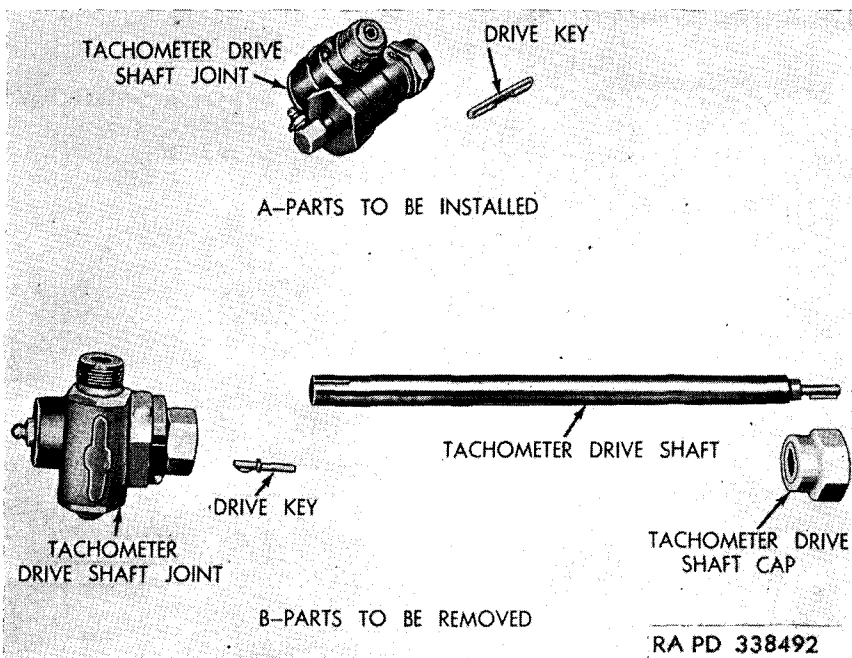
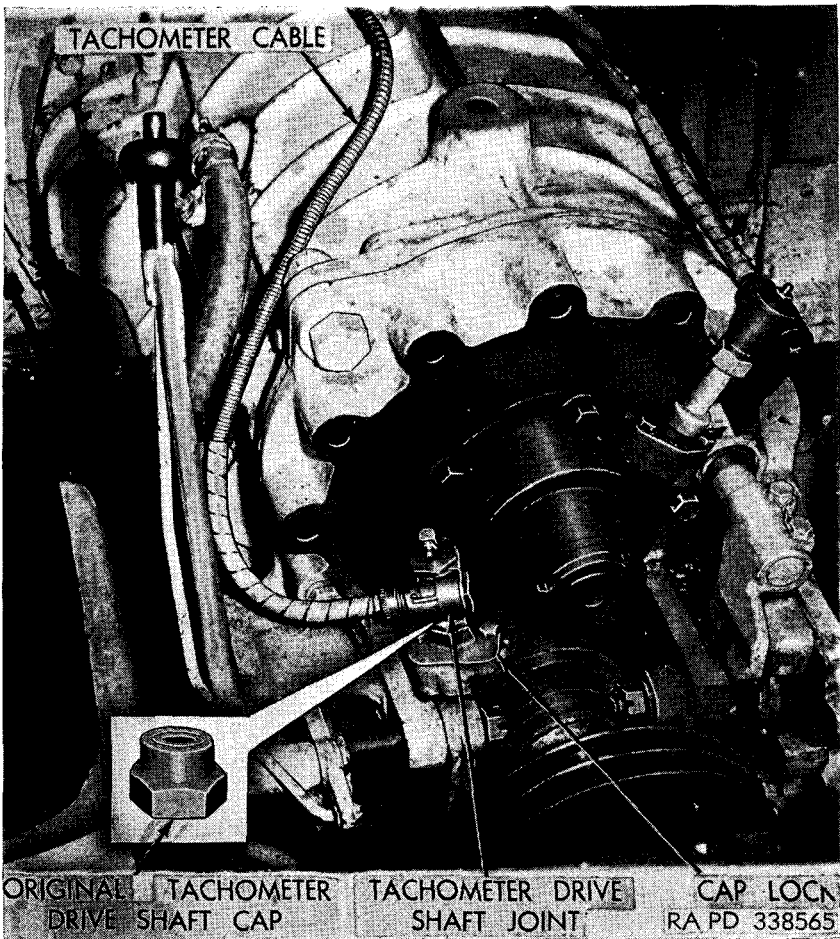

Figure 16. Tachometer drive shaft joints.
Figure 21. New tachometer drive shaft joint—installed.
b. REMOVE TACHOMETER DRIVE SHAFT JOINT. If tank is equipped with a tachometer drive shaft joint connected at rear of transmission (figs. 14 and 15), disconnect and remove the tachometer drive shaft joint and drive key (fig. 16). This joint and key will not be reinstalled. Remove the tachometer drive shaft through the drive shaft sleeve.
c. REMOVE PROPELLER SHAFT HOUSING. (1) If tank is equipped with a generator mounted on or near the engine, remove propeller shaft housing. Take off the sheet steel transmission cover fastened to the rear of transmission. The transmission rear cover will not be reinstalled.
i. INSTALL THE NEW TACHOMETER DRIVE SHAFT JOINT (fig. 21). Pry the lock from the tachometer drive shaft cap and remove the cap. This cap becomes surplus to bulldozer installation. Install new drive key and tachometer drive shaft joint (fig. 16) on tachometer drive gear bearing sleeve and bend the lock against the tachometer drive shaft joint. Remove the clip holding the tachometer and speedometer cables at the front of the transmission and connect the tachometer cable to the tachometer drive shaft joint.